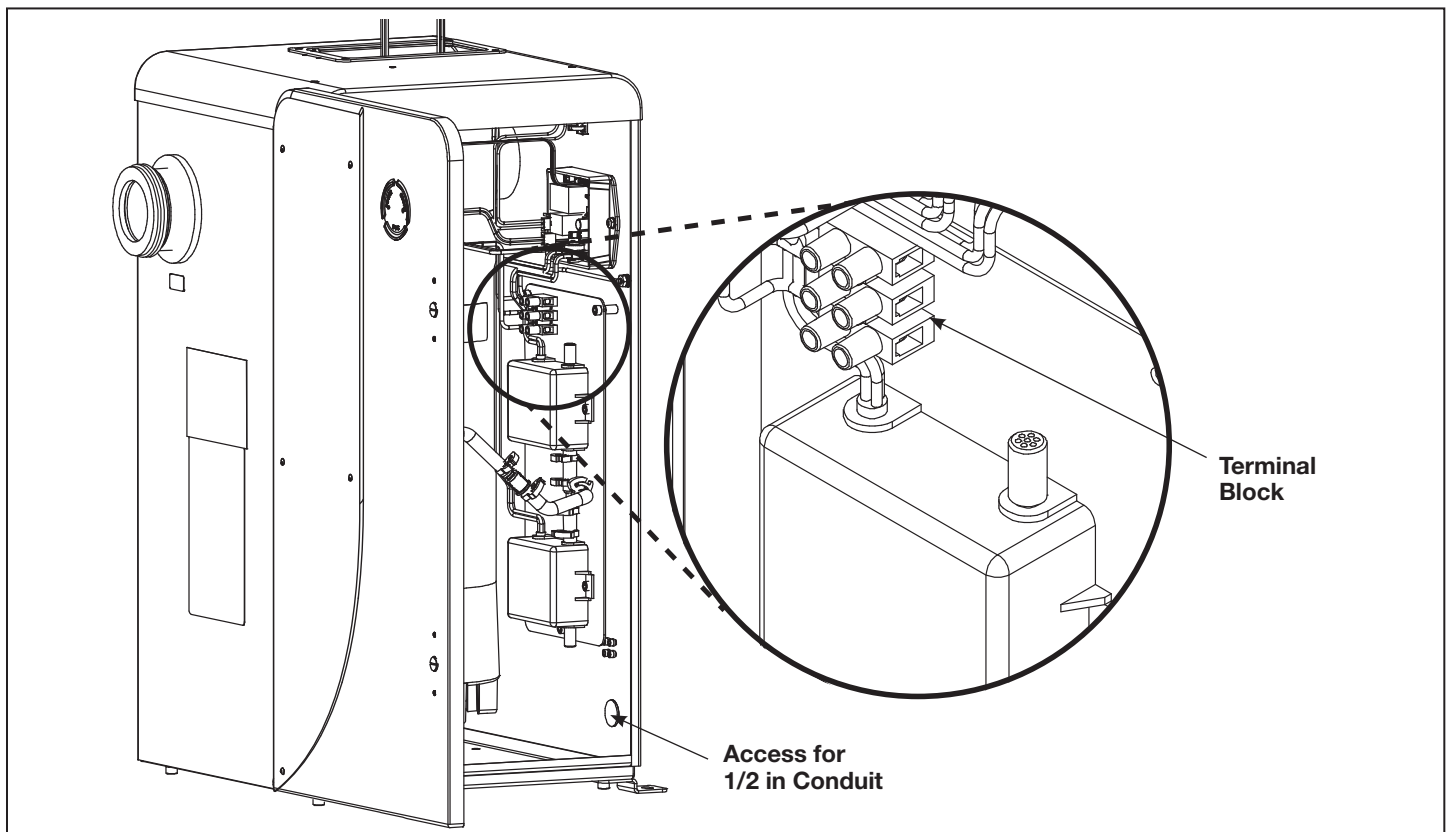

Figure 7. Terminal Block and Wiring Instructions
- Connect Line 1, Line 2 or Neutral, and Ground to the terminal block as indicated by the label on the electrical panel located on the inner right side of enclosure. See Figure 7.